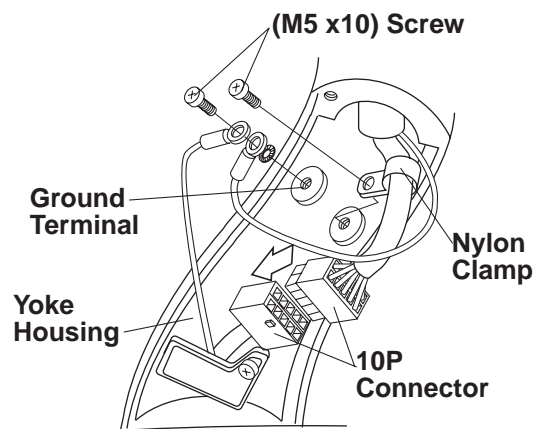

Fig.3-17 Connection 10P Connector in Yoke
6. Loosen the (M5 x 10mm) screw and remove the nylon cable clamp from the yoke housing. Place cable clamp on the balance arm cable. Connect the **10P** connectors, and then attach the balance arm cable to the yoke housing with the nylon cable clamp. **(Fig.3-17)**
7. Remove the (M5 x 10mm) screw from the ground terminal inside of the yoke housing. Secure the green ground wires from balance arm and head to the ground terminal with the (M5 x 10mm) screw. **(Fig.3-17)**